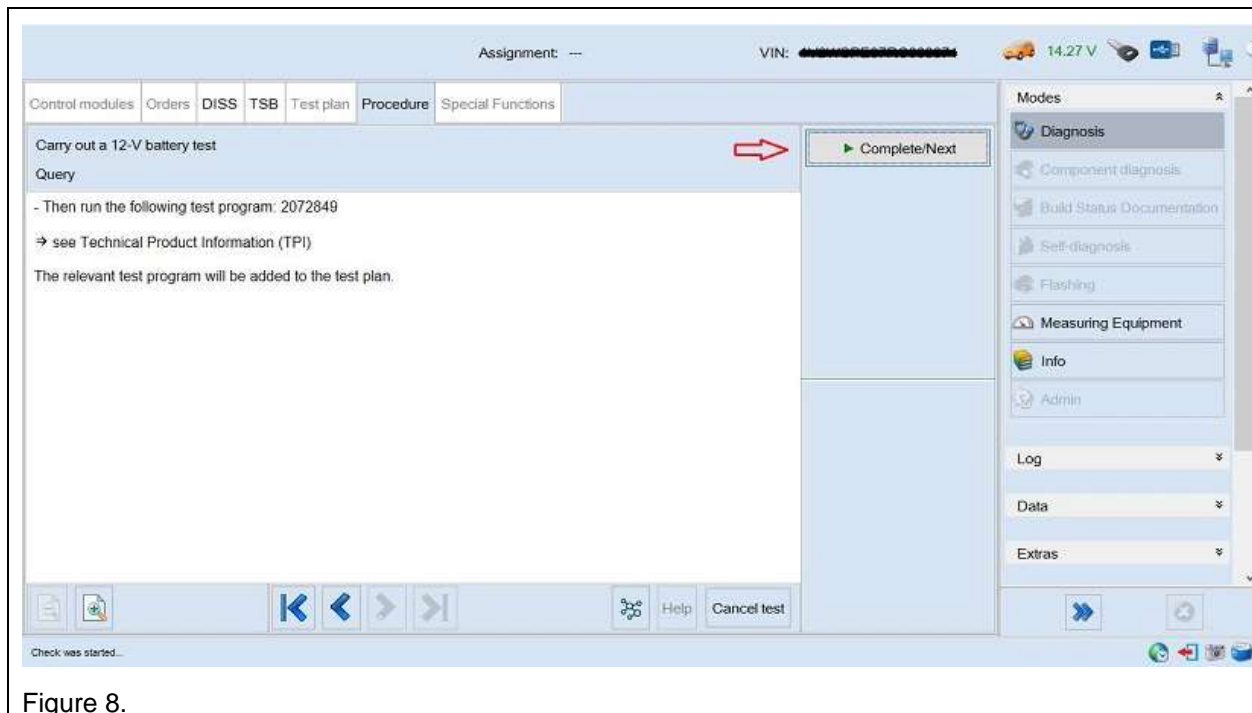

Figure 8.
8. In order to perform the 12V battery test, you must add test program 2072849 and depress the Complete/Next button (Figure8).